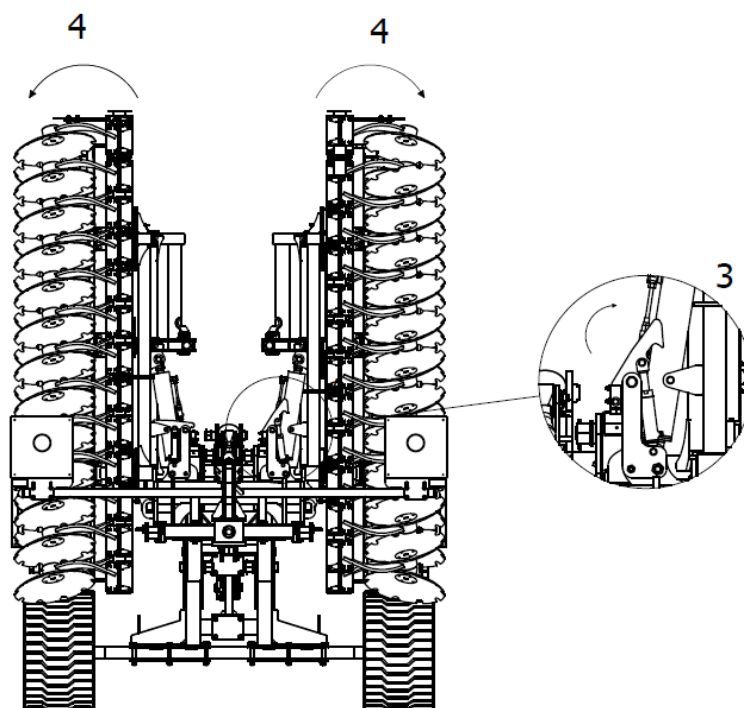

Figure 10 Machine opening sequence: 3- release the hook of the hydraulic wing lock mechanism 4- open the wings of the machine.
3. Once you have ensured that the hook of the hydraulic wing lock mechanism will allow the machine wings to be unlocked, you can proceed to open them fully (fig. 10).